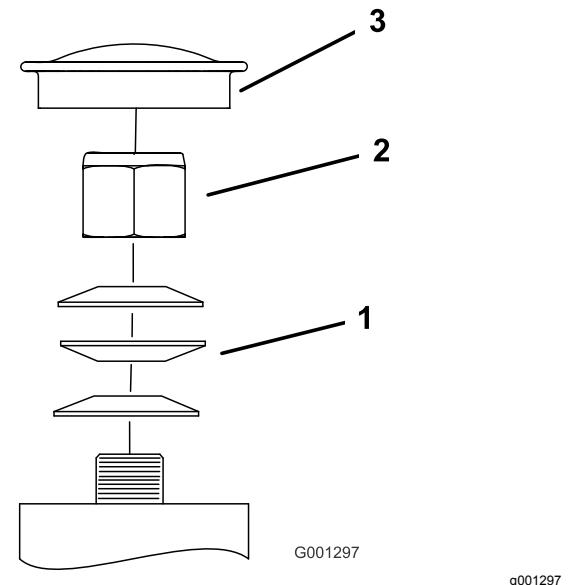

Figure 57
3. Remove the dust cap from the caster and tighten the locknut (Figure 57).
4. Tighten the locknut until the spring washers are flat, and then back off 1/4 turn to properly set the preload on the bearings (Figure 57).
Important: Make sure that the spring washers are installed correctly as shown in Figure 57.
5. Install the dust cap (Figure 57).